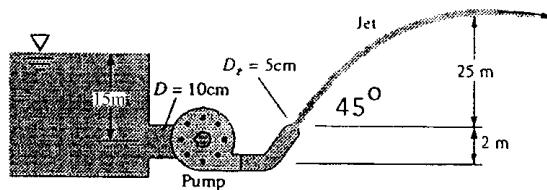

Fig. P3.144
**3.144** The pump in Fig. P3.144 creates a  $20^\circ\text{C}$  water jet oriented to travel a maximum horizontal distance. System friction head losses are  $6.5 \text{ m}$ . The jet may be approximated by the trajectory of frictionless particles. What power must be delivered by the pump?